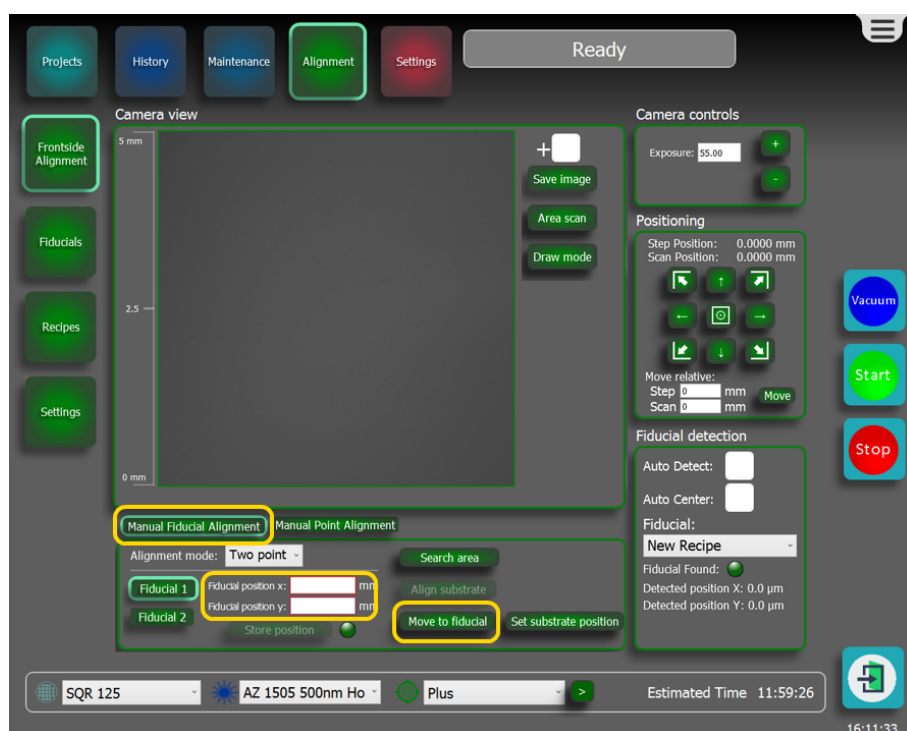

Figure 3-99 Going towards marker position
4. At **Fiducial position x** and **Fiducial position y** (see Figure 3-99), fill in the expected fiducial marker position that you calculated.